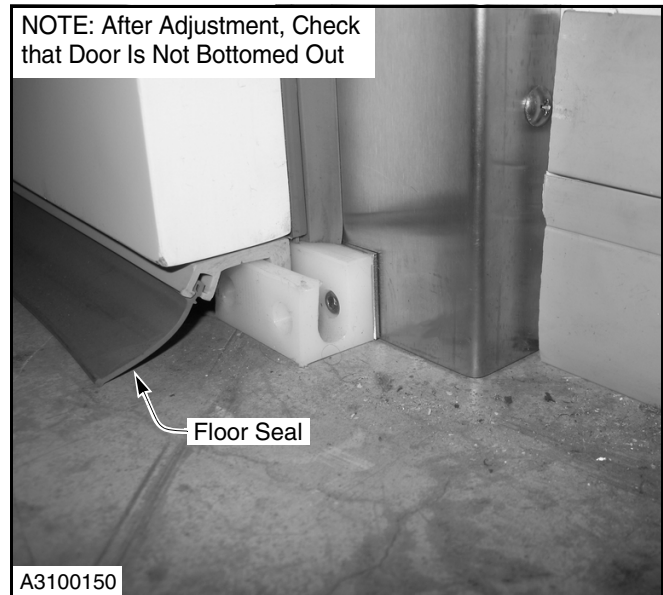

Figure 9
6. Check the position of the bottom edge of the door panel. The floor seal should make contact with the floor. It will be necessary for you to place your fingers between the seal and the floor to verify the position of the door. Do not judge the position by how the seal cover hangs from the door. (See Figure 9.)